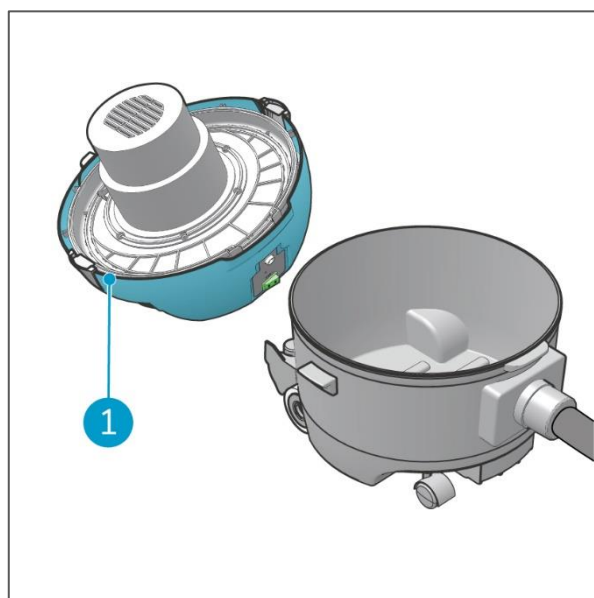

Figure 10
5. Place the head on a level surface (Figure 10, pos 1).